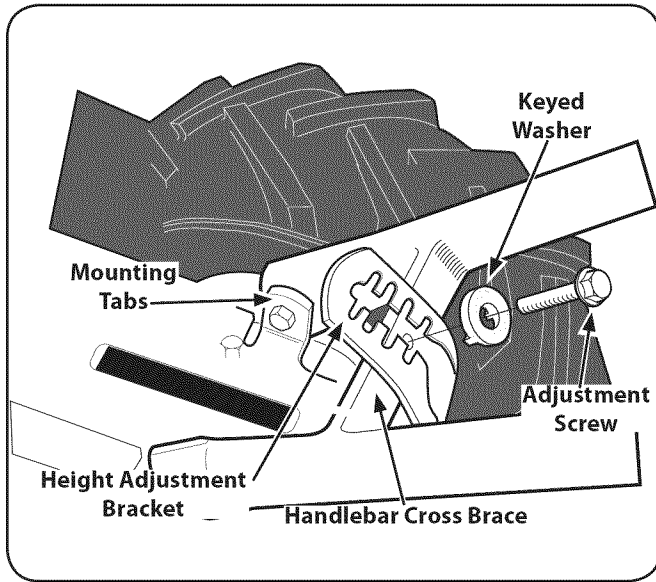
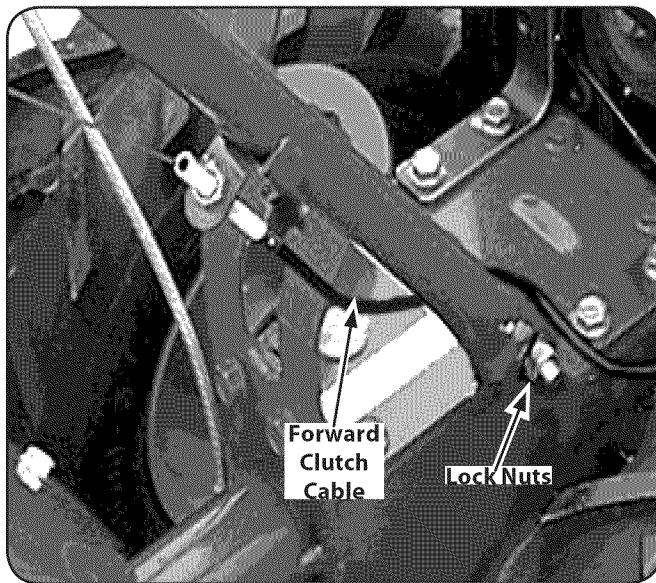

Figure 3-2
Figure 3-3
3. Gently lift the handlebar (do not overstretch the attached cable) and place the handlebar cross-brace in front of the curved height adjustment bracket. See Figure 3-2.
4. With the forward clutch cable on the inside of the handlebar (See Figure 3-3), position the handlebar ends on the outside of the two mounting tabs shown in Figure 3-2 on the transmission top cover.
NOTE: The curved handlebar height adjustment bracket appears as shown in Figure 3-2 for non-electric start tillers. For electric start machines, the bracket is loosened and moved to one side.
5. Loosely attach the handlebars to the mounting tabs with two $\frac{3}{8}$ -16 x 1" screws (heads of screws go to inside of tabs), $\frac{3}{8}$ " flat washers and $\frac{3}{8}$ "-16 lock nuts. See Figure 3-3.
7. Move the handlebars up or down to align the threaded hole in the cross brace with one of the four slots in the curved height adjustment bracket. Place the keyed washer on the flange head height adjustment screw with the raised edges of the washer facing down. See Figure 3-2.